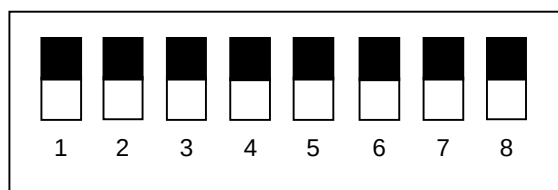

Figure 6.4.2 DIP switches (Being set for Standard setting)
- (2) Perform as the procedure shown below.
(3) Set the DIP switch No.4 as shown in Figure 6.4.2.